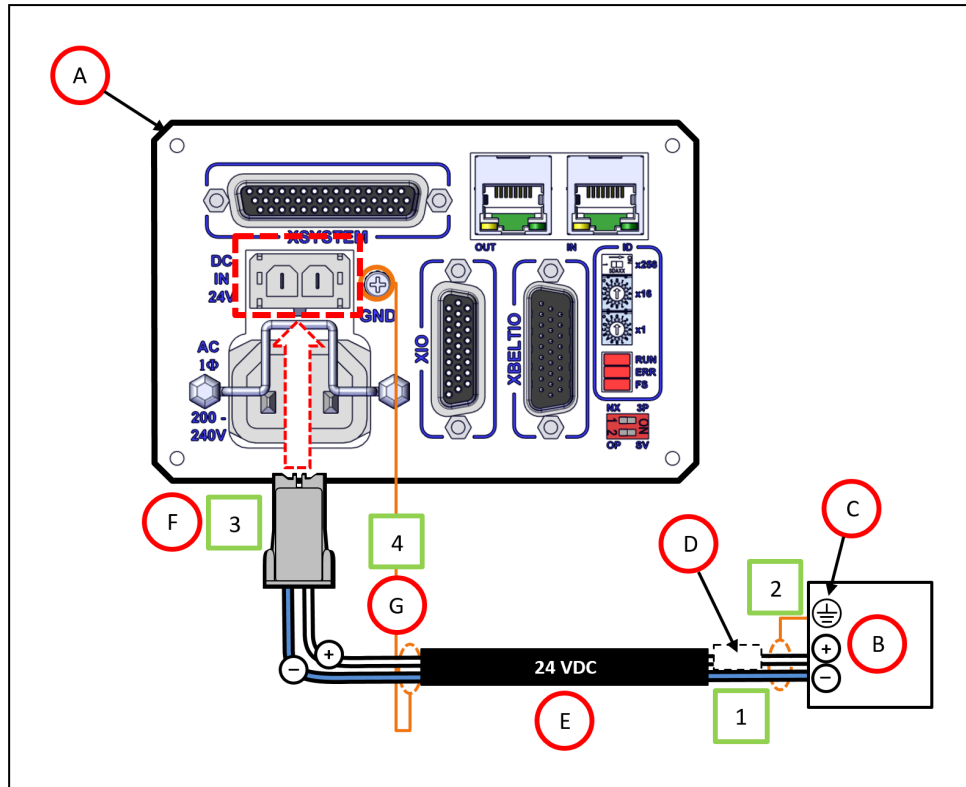

Figure 4-11. User-Supplied 24 VDC Cable, Power Supply
The 24 VDC output must be less than 300 W peak or 8 Amp (max) in-line circuit protection must be provided for each connected robot. Refer to (D) in Figure 4-11. above.